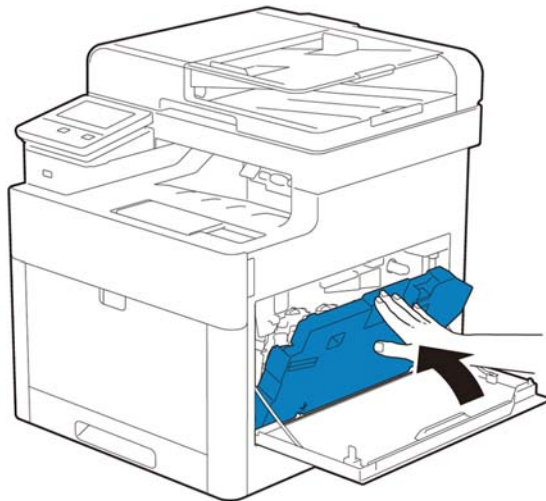

Figure 9 Push on the handle of the waste toner box until it clicks.
11. Push on the handle of the waste toner box until it clicks, Figure 9.